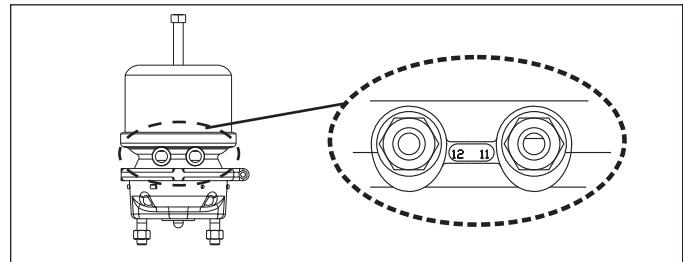

Figure 45 – Port Designations
5.4.4 Exhaust the air from the brake chambers by using the dash-mounted air control valve. With all air pressure drained from the system, disconnect the air hoses from the brake chamber. While supporting the brake chamber in position, remove and discard the brake chamber mounting nuts (See *Figure 45*, arrows marked "B"). Remove the brake chamber.